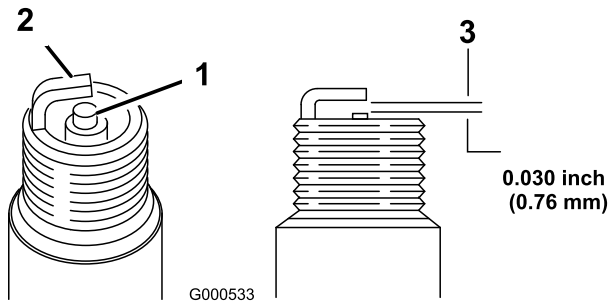

Figure 29
5. Set the gap on the plug to 0.030 in. (0.76 mm) (Figure 29).